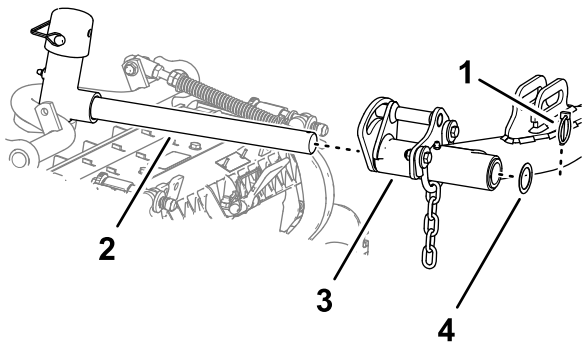

Figure 27
6. Slide a cutting unit under the lift arm (Figure 27).